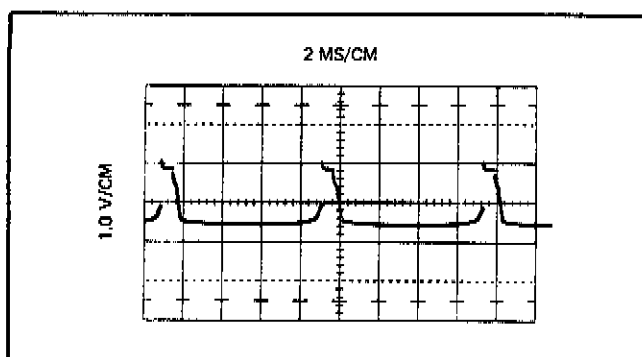

Figure 4-17. PRE-REGULATOR Q1, WAVEFORM ON STDBY/RESET
- Set the POWER switch to STDBY/RESET. The oscilloscope waveform should appear as shown in Figure 4-17.